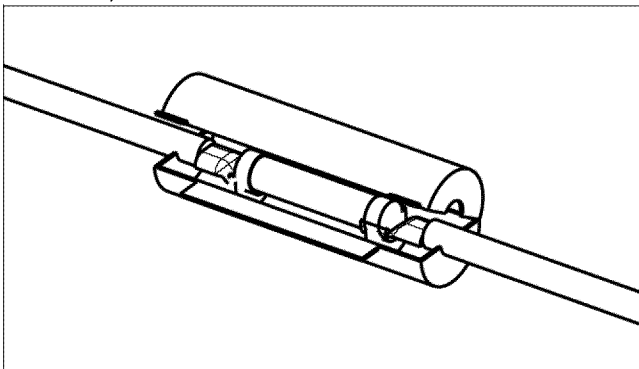

Figure 4-9. Battery Charger Fuse
1. See Figure 4-9. The two halves of the fuse holder pull apart. Remove the broken fuse.